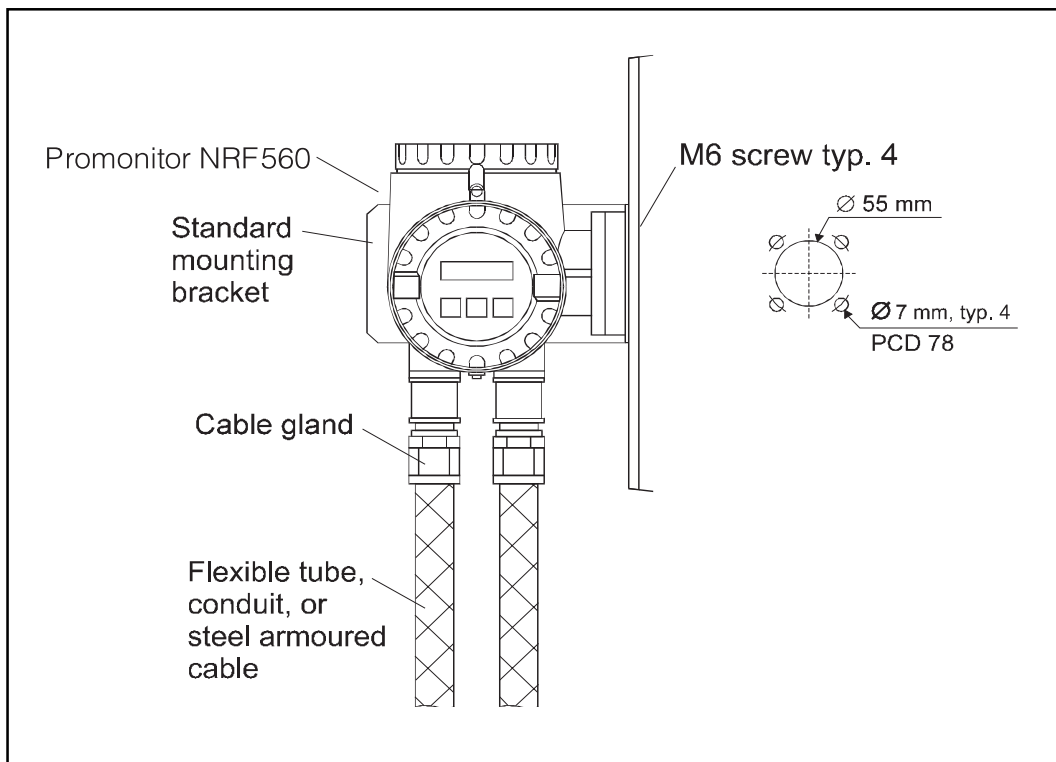

Fig. 3:
- Mounting on the wall (see Fig. 3)